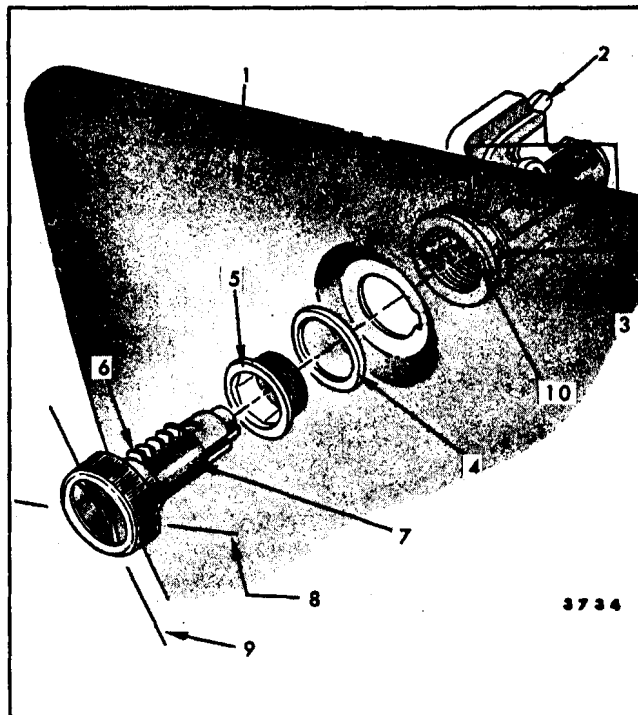

Fig. 5-17-Instrument Panel Compartment Door Lock and Cylinder-All Styles
- With door open, set fork bolt in latched position. Cylinder retainer will come into view in lock case in 12 o'clock position (Figure 5-17). Alternate retainer position, 3 o'clock position, may be obtained by rotating lock cylinder (key inserted) to locked position (Figure 5-17).
- Position lock case with locating tang aligned with notch in opening (Fig. 5-17).